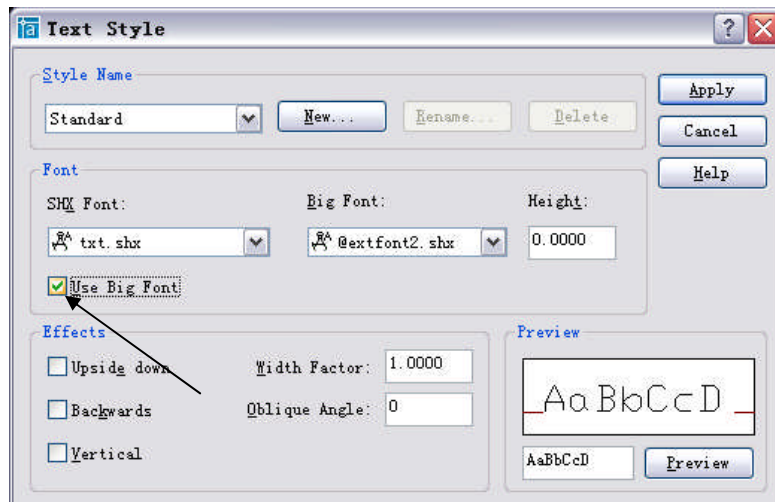

Figure FL-2
Then you'll enter the menu shown in Figure FL-2, select Use Large Font (U). And then select the font file you required from the pull-down menu of Large Fonts (B), we currently supports